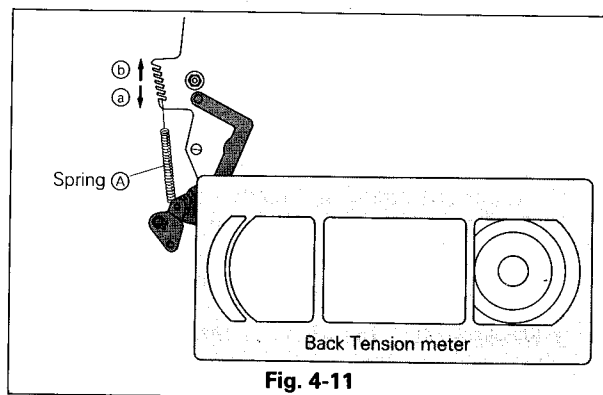

Fig. 4-11
- If the mean value exceeds 47g-cm adjust the value to 42g-cm by adjusting the location of the spring (A) in the direction of arrow (a) as shown in Fig. 4-11.
- If the pointer mean value is much less than 37g-cm, adjust it to 42g-cm by adjusting the location of the spring (A) in the direction of arrow (b).